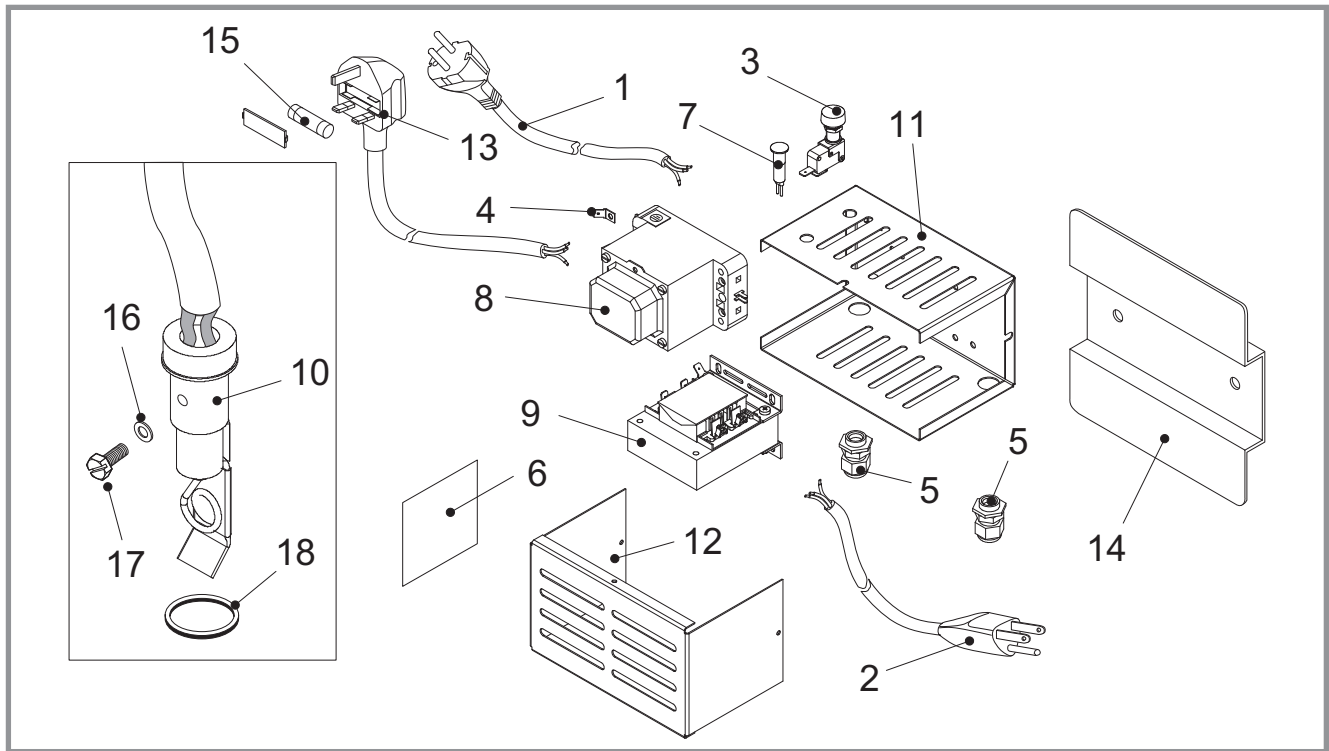

Figure 7
- Fit the transformer onto the back heat shield by sliding it into the two guides on the left backside or fixed the support (rep. 14, fig. 7, p. 4) on a wall.